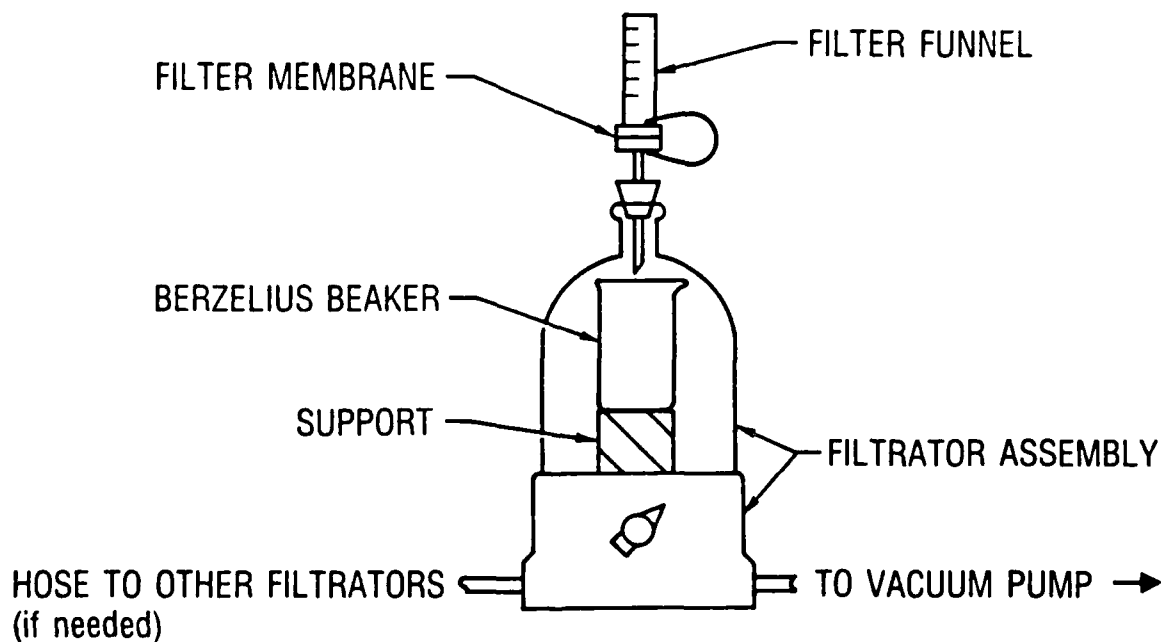

Fig. A-1. Vacuum Filtration System for NVR Extraction From Sample
4.3(AB) Vacuum filtration system, 25-mm diameter, consisting of a membrane filter funnel, Fisher Filtrator assembly⁽²⁾ and vacuum pump that will provide a pressure of 250 Torr (a vacuum of 500 mm Hg). See Fig. A-1.